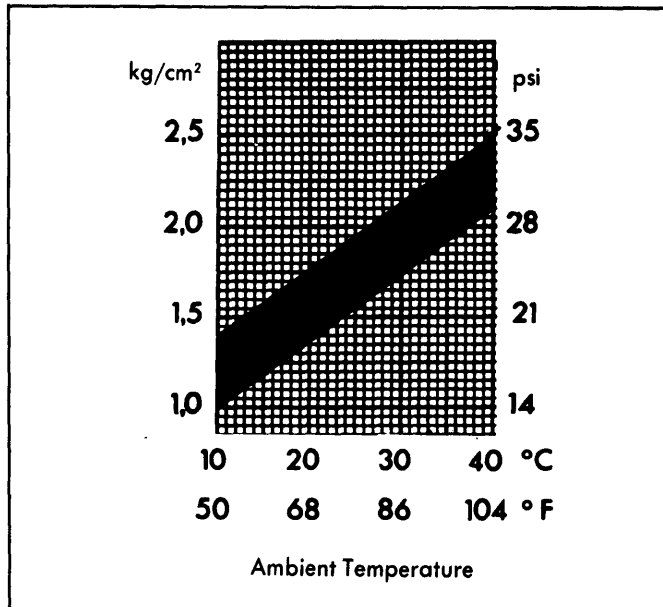

Fig. 3: Cold Engine Control Pressure Test Graph
3) Note control pressure and compare to graph. See Fig. 3. At about 68°F (20°C), pressure should read between 18-24 psi (1.3-1.7 kg/cm2). If pressure does not read within specifications, replace control pressure regulator.